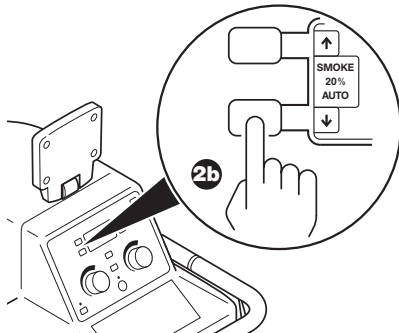

Figure 28 To Adjust Smoke Evacuation
- b. From the smoke evacuation information area of the CONTROL screen, push the buttons next to the arrow icons to increase or decrease the smoke evacuator power setting as required (Figure 28).